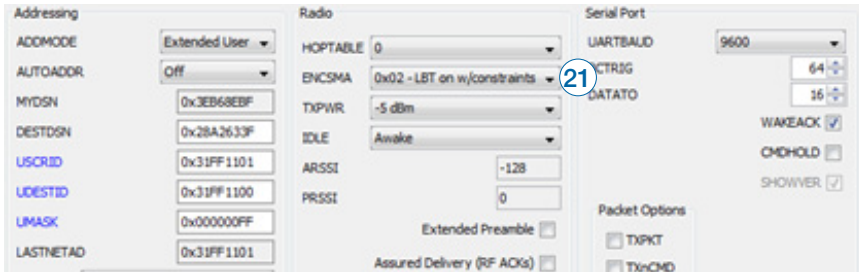

Figure 15: The Master Development System Software 868MHz Advanced Configuration Tab
21. When an 868MHz module is active, the ENCSMA becomes a drop-down menu that selects the LBT + AFA settings (Figure 15).